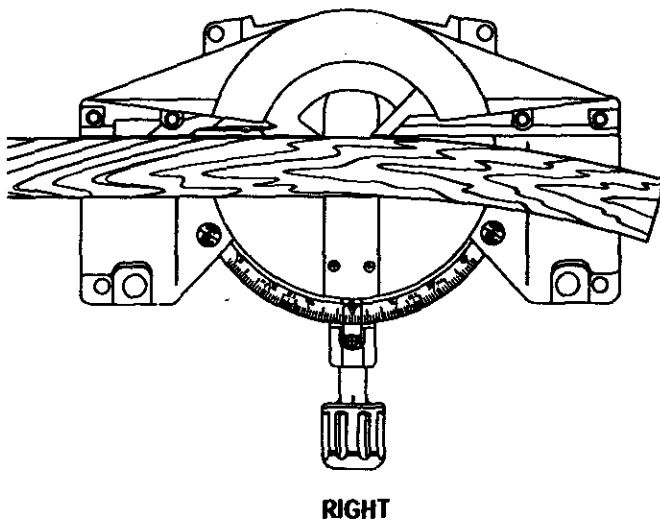

Fig. 33
- Place the workpiece flat on the miter table with one edge securely against the fence. If the board is warped, place the convex side against the fence. If the concave edge of a board is placed against the fence, the board could collapse on the blade at the end of the cut, jamming the blade. See Figures 33 and 34.
- Place the workpiece flat on the miter table with one edge securely against the fence. If the board is warped, place the convex side against the fence. If the concave edge of a board is placed against the fence, the board could collapse on the blade at the end of the cut, jamming the blade. *See Figures 33 and 34.*
See Figures 33 and 34.
When cutting warped material, always make sure it is positioned on the miter table with the convex side against the fence as shown in figure 33.